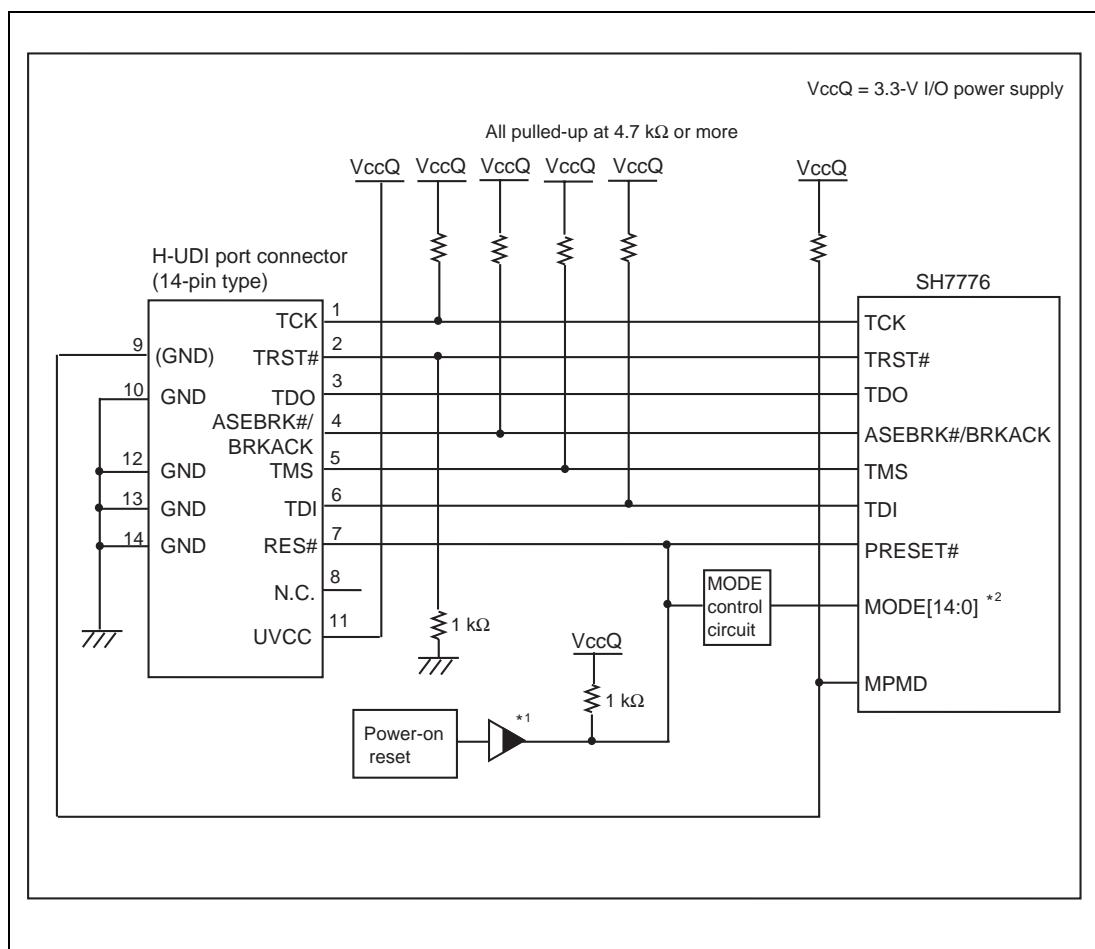

Figure 1.4 Recommended Circuit for Connection between the H-UDI Port Connector and MPU when the Emulator is in Use (14-Pin Type)
Figure 1.4 shows a recommended circuit for connection between the H-UDI port connector (14 pins) and the MPU when the emulator is in use.
- (1) When the emulator is used: MPMD = 0
- (2) When the emulator is not used: MPMD = 1
- Figure 1.4 shows an example of circuits that allow the MPMD pin to be GND (0) whenever the emulator is connected by using the user system interface cable.
7. The resistance values shown in figure 1.4 are for reference.